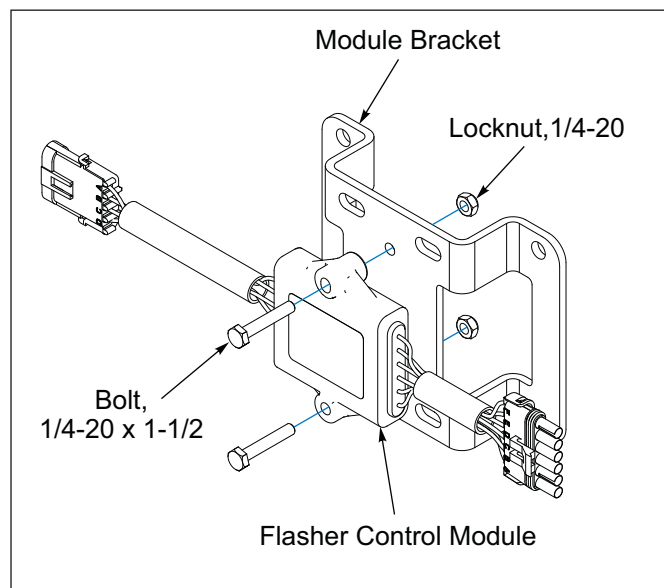

Figure 2-14: Flasher Control Module and Bracket
7. Attach the Flasher Control Module to the Module Bracket with 1/4-20 x 1-1/2 Bolts and Locknuts. **See Figure 2-14.**